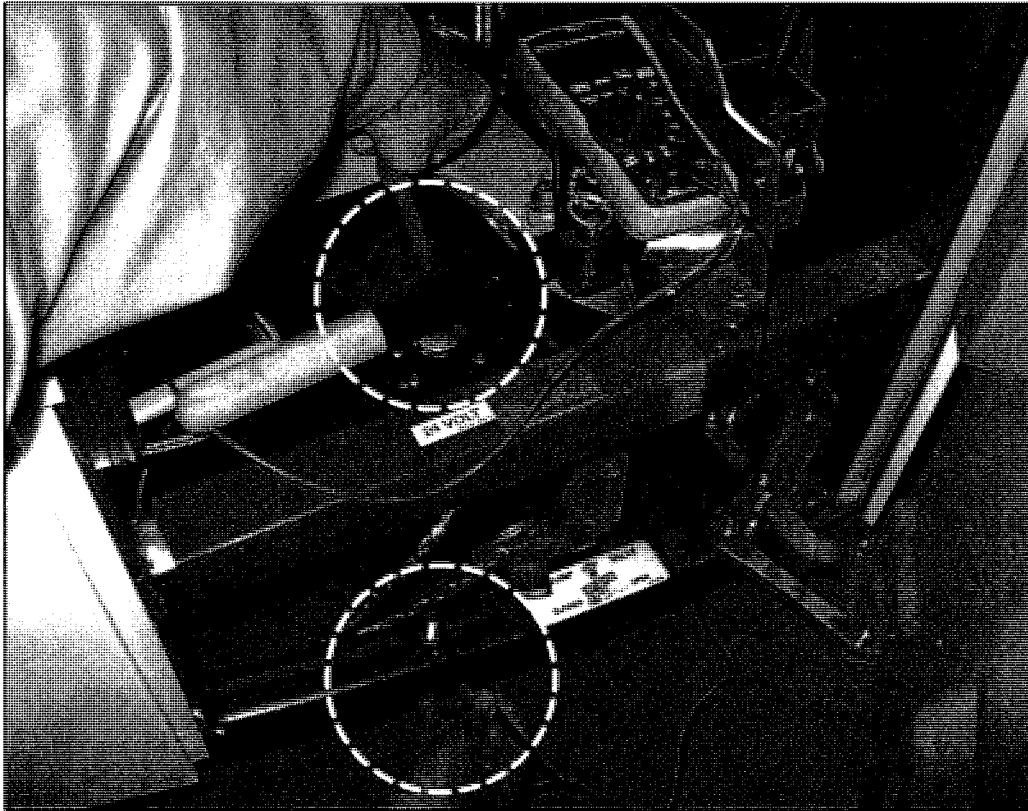

Figure 7.
14. Open the curbside, rear, side service compartment door. Locate the terminals and position a voltmeter across the jump start terminals (refer to Figure 7) to validate that the charging system is operating.